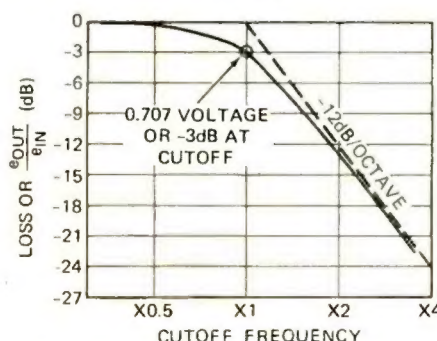

FIG. 2—RESPONSE OF LOW-PASS FILTER. Slope shown is 12 dB per octave.
could select the L-C ratio of the passive filter or the ratio of C1 and C2 in the active filter to get a response that looks like Fig. 2.
The response is identical to the curve in Fig. 2 with $f=1$ kHz, $2f=2$ kHz, and so on. As with any low-pass active filter, there must be a low dc impedance to ground at the source. Thus your source has to be less than 10,000 ohms and must provide a route to ground for the op amp's bias current. Again, the response is Butterworth, giving us the flattest possible passband, and an attenuation of -3 dB or 0.707 amplitude at the cutoff frequency, and smoothly falls off at -12 decibels per octave. This means that in the stopband as you double frequency, you get only one quarter the amplitude, and so on.
18. Refer to Fig. 2 and apply a single drop of lubricant to the over-arm shaft assembly. Work the arm up and down to insure proper lubrication.